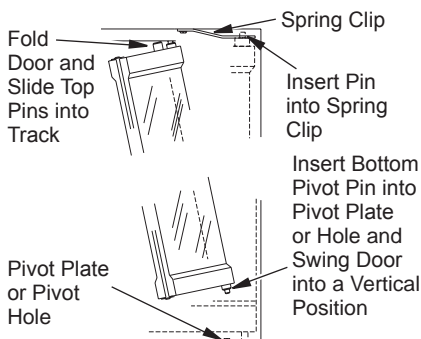

Figure 8 - Installing Bi-Fold Door
1. With bi-fold door completely folded, insert bottom pivot pin into pivot plate or pivot hole located near bottom corner of front face opening and swing door to the vertical position making sure top pins slide into door track. Door is installed when top door pin snaps into spring clip (see Figure 8).